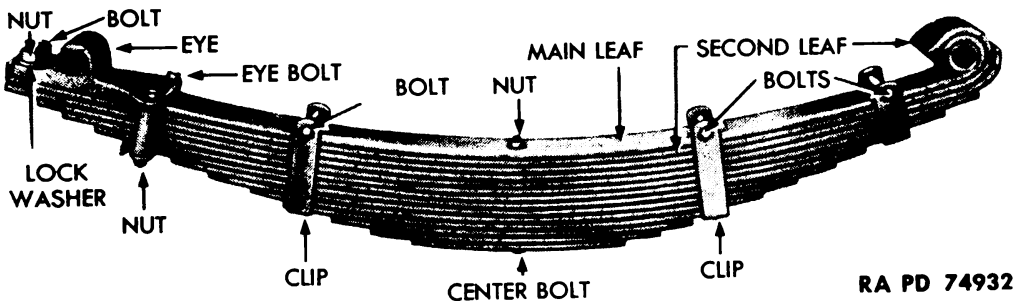

Figure 55 — Front Spring Assembly
a. **Description** (fig. 55). The two front springs are semielliptic and consist of 14 leaves. Each spring is secured at the front end by a pin to a frame bracket, and at the rear end by a pin to a shackle.
a. **Disassembly** (fig. 55).
c. Assembly (fig. 55).